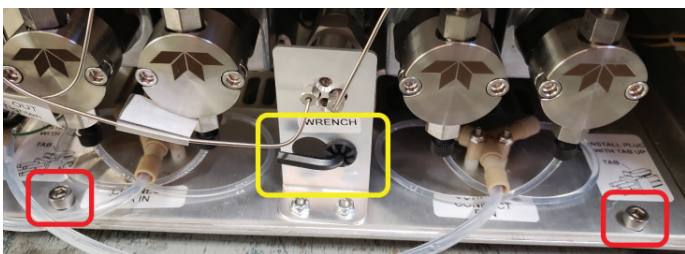

Figure 4: Allen key and pump assembly securing screw locations
- Using the 3/16" Allen wrench attached to the front of the pump assembly, remove the two screws that secure the pump assembly to the instrument (Figure 4). Use the Allen wrench on the replacement pump assembly if it is missing from the current pump assembly.
3. Using the 3/16" Allen wrench attached to the front of the pump assembly, install the two front screws to secure the pump assembly to the instrument (Figure 4)